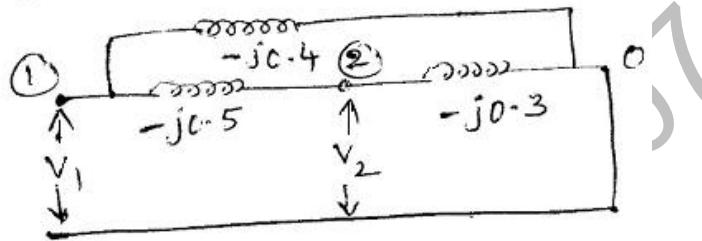

Fig. 1
- 2 Formulate Y_{BUS} for the network shown in Fig. 1. The values given are admittances. 3